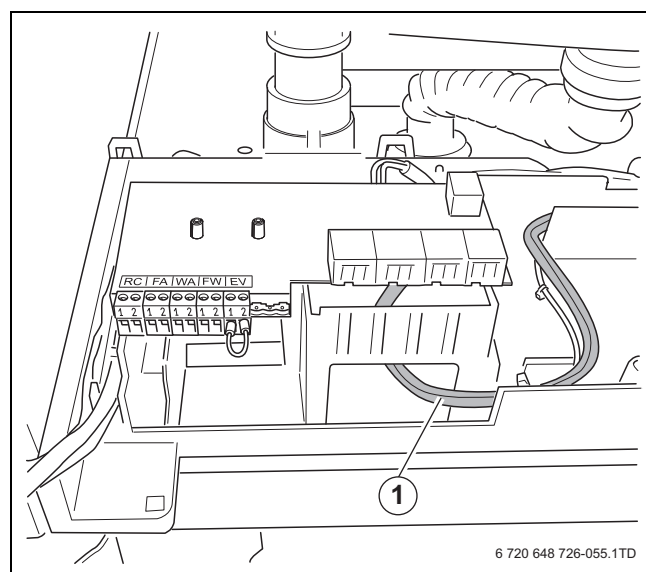

Fig. 55 Route the 230 VAC pump cable
- ▶ Unwind the 230 VAC cable [1] and route it out of the boiler (→ fig. 55).